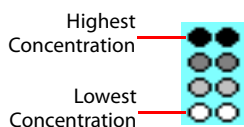

Figure 9-9: Concentration Representation in Dilution Series
3. Select a series operator, enter an operand, and select the appropriate dilution orientation (see Figure 9-9).